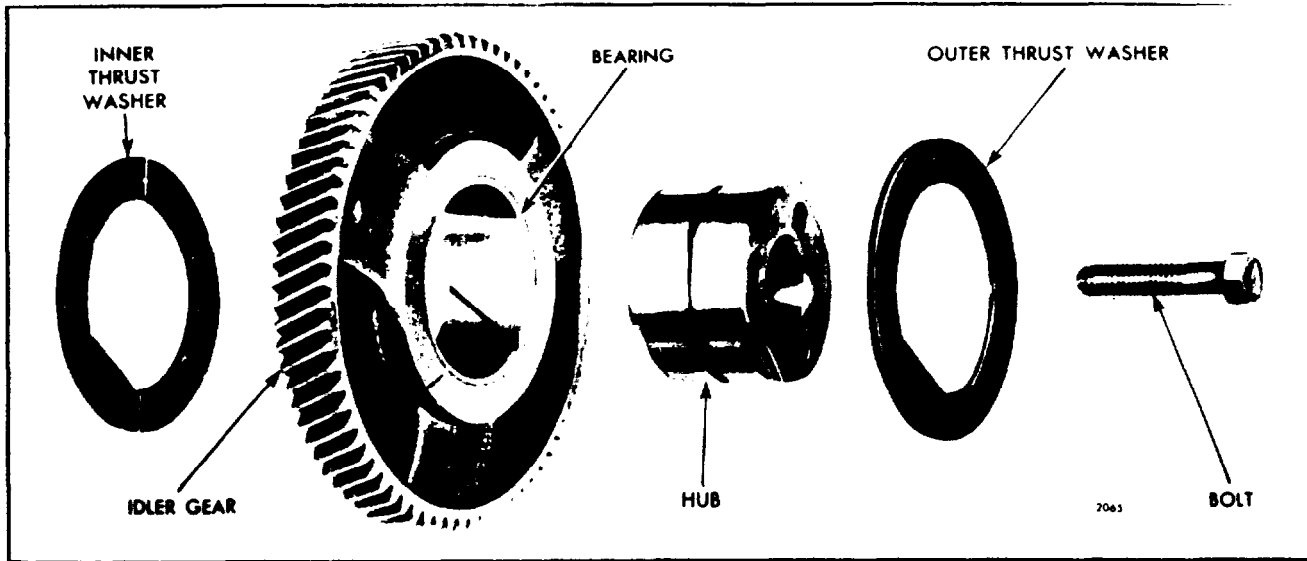

Fig. 3 Idler Gear Details and Relative Location of Parts
1. Remove the idler gear outer thrust washer from the idler gear hub (Fig. 3).